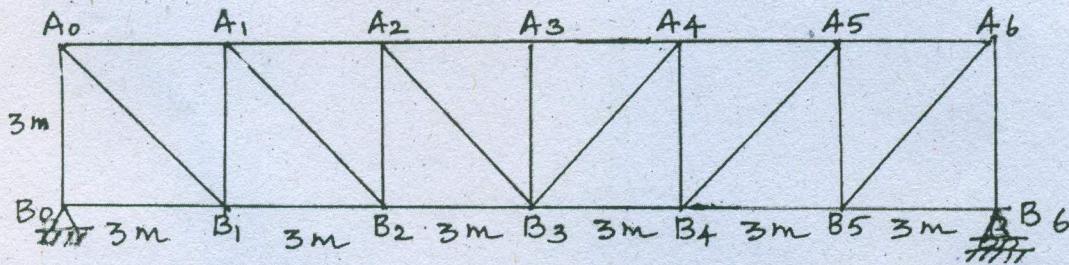

Fig. Q. 12 (b)
- (b) Draw the influence line diagram (ILD) for the forces in members A_1B_1 and A_1B_2 of the truss shown in Fig. Q. 12 (b).